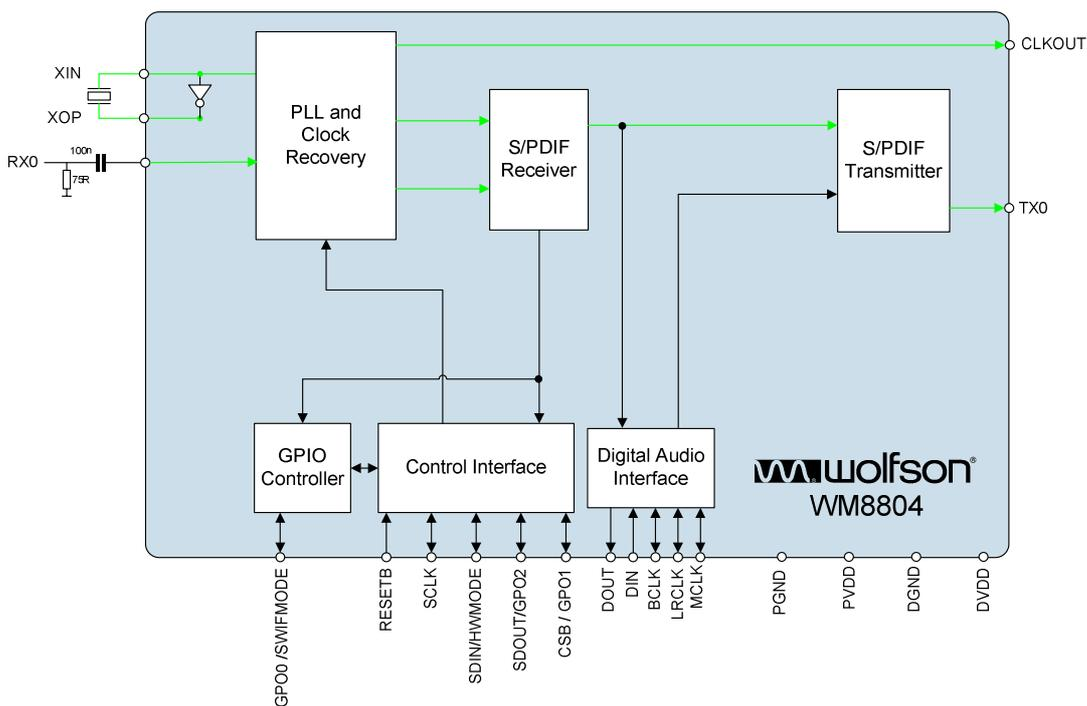

Figure 9 RX0 to TX0 Block Diagram
- Figure 9 illustrates the data path.